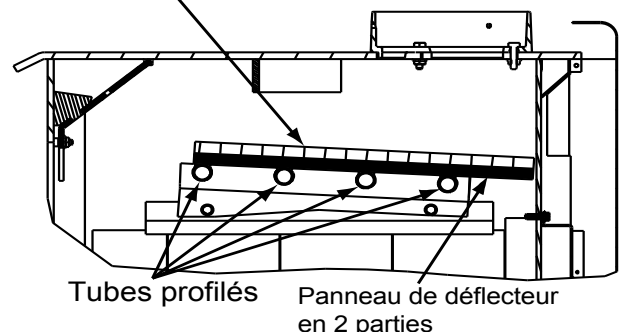

Figure 11.1
1. Confirm the baffle is correctly positioned. It should be even with the front tube and resting on all tubes (**Figure 11.1 and 11.2**).